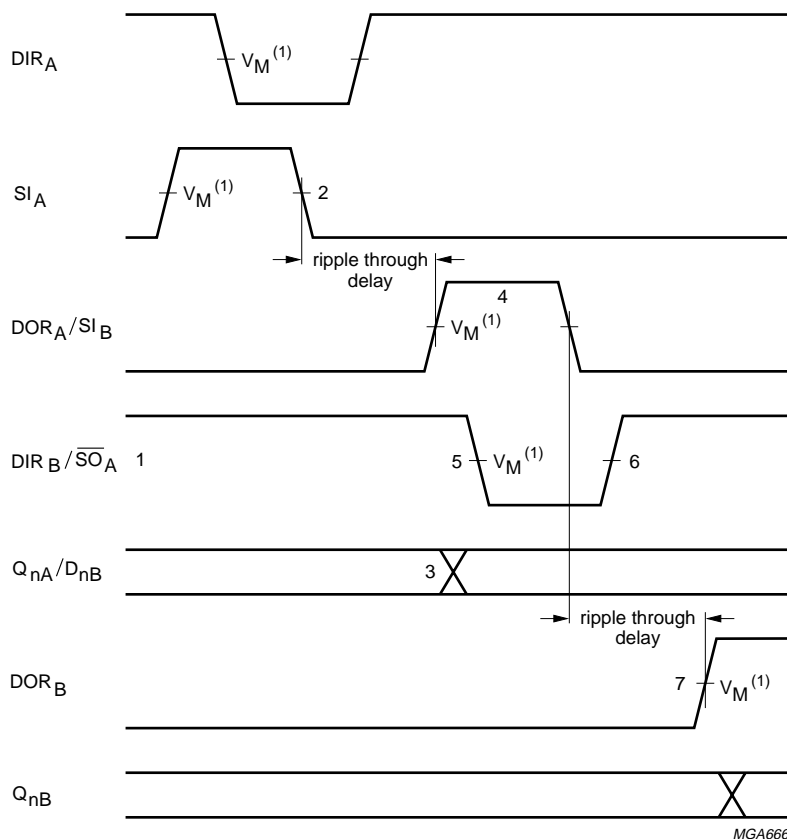
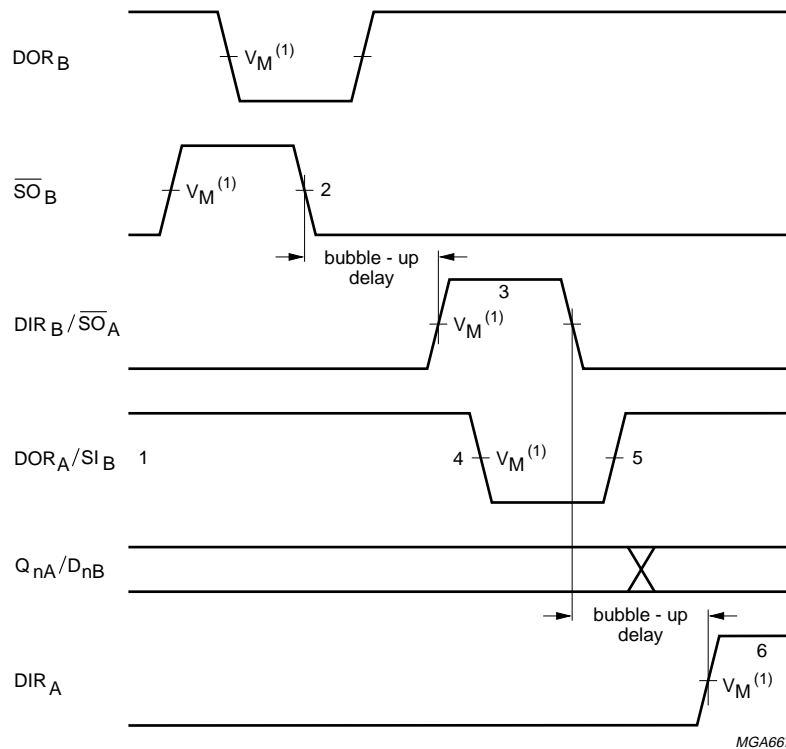
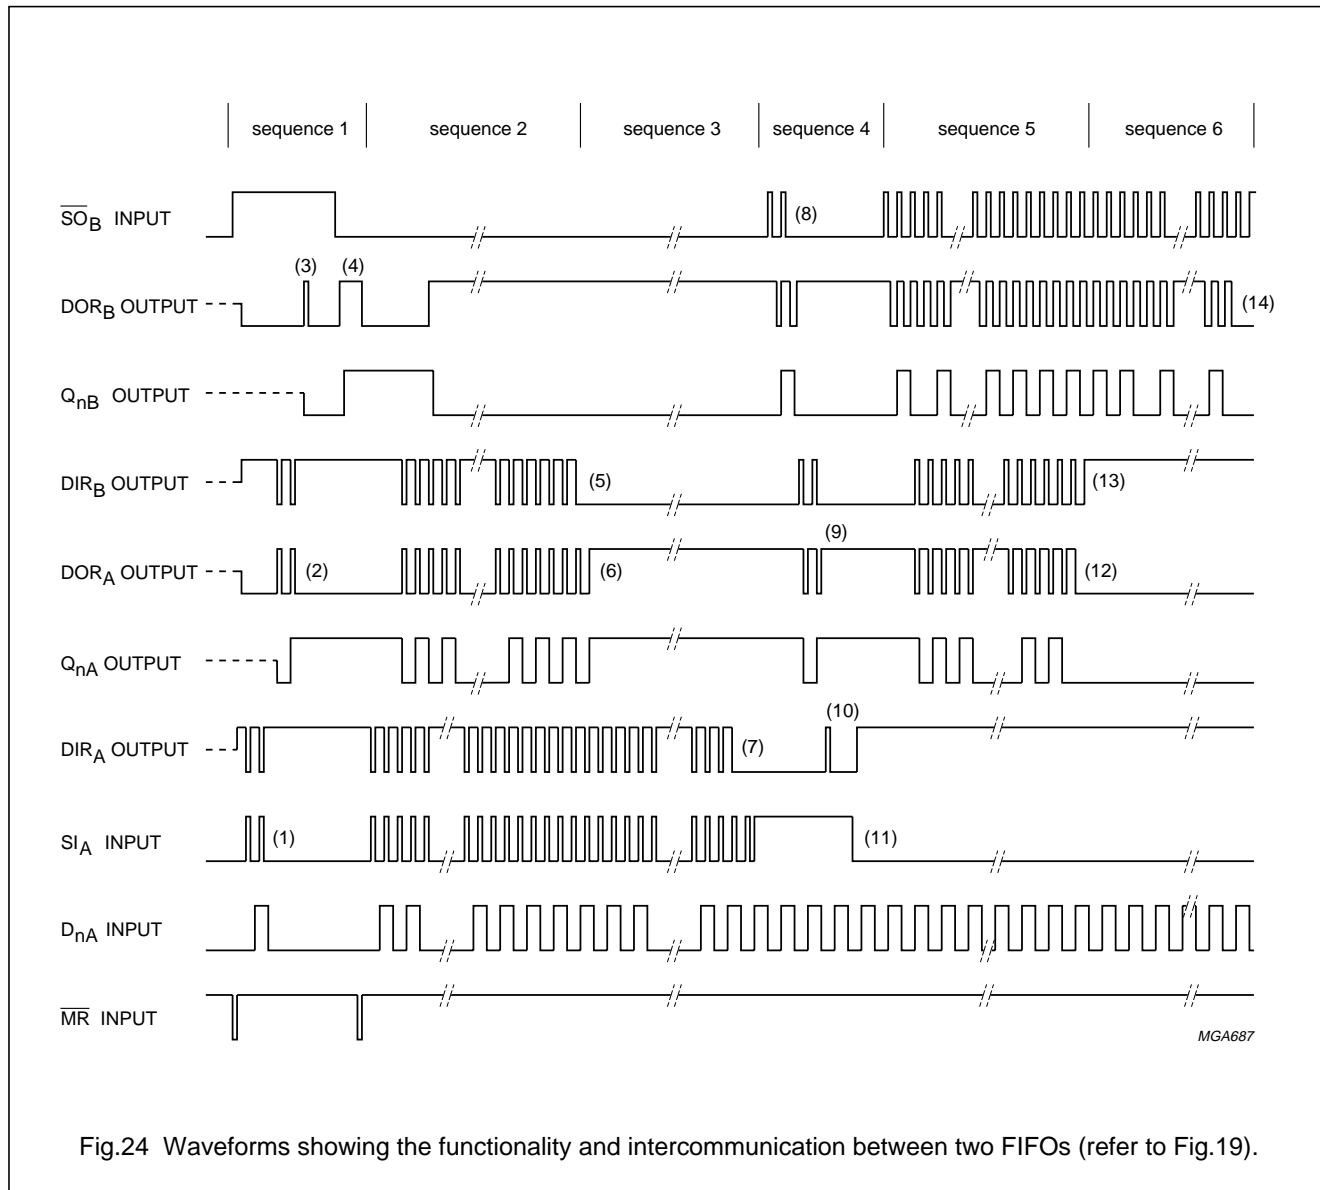

Fig.22 FIFO to FIFO communication; input timing under empty condition.
Fig.23 FIFO to FIFO communication; output timing under full condition.
Fig.24 Waveforms showing the functionality and intercommunication between two FIFOs (refer to Fig.19).
Figure 21 shows two cascaded FIFOs providing a capacity of 128 words x 5 bits. Figure 22 shows the signals on the nodes of both FIFOs after the application of a SI pulse, when both FIFOs are initially empty. After a ripple through delay, data arrives at the output of FIFOA. Due to  $\overline{SO}_A$  being HIGH, a DORA pulse is generated. The requirements of SIB and DnB are satisfied by the DORA pulse width and the timing between the rising edge of DORA and QnA. After a second ripple through delay, data arrives at the output of FIFOB.
Figure 23 shows the signals on the nodes of both FIFOs after the application of a  $\overline{SO}_B$  pulse, when both FIFOs are initially full. After a bubble-up delay a DIRB pulse is generated, which acts as a  $\overline{SO}_A$  pulse for FIFOA. One word is transferred from the output of FIFOA to the input of FIFOB. The requirements of the  $\overline{SO}_A$  pulse for FIFOA is satisfied by the pulse width of DORB. After a second bubble-up delay an empty space arrives at DnA, at which time DIRA goes HIGH. Figure 24 shows the waveforms at all external nodes of both FIFOs during a complete shift-in and shift-out sequence.
The “7404” is easily cascaded to increase word capacity without any external circuitry. In cascaded format, all necessary communications are handled by the FIFOs. Figures 22 and 23 demonstrate the intercommunication timing between FIFOA and FIFOB. Figure 24 provides an overview of pulses and timing of two cascaded FIFOs, when shifted full and shifted empty again.
Notes to Fig.22
**Notes to Fig.23**
**Note to Fig.24**